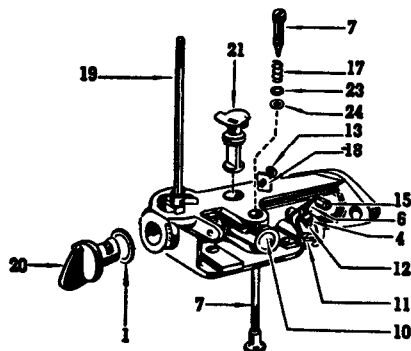

Fig. CL45 — Exploded view of suction lift carburetor. Only one fuel mixture adjustment needle (7) is used.
Refer to Fig. CL45 for exploded view of typical carburetor. Carburetor is equipped with only one fuel adjustment needle (7). Average adjustment is 3 1/2 turns open. Make final adjustment with engine running at operating temperature and with fuel tank approximately 1/2-full. Adjust for best high speed operation under load.